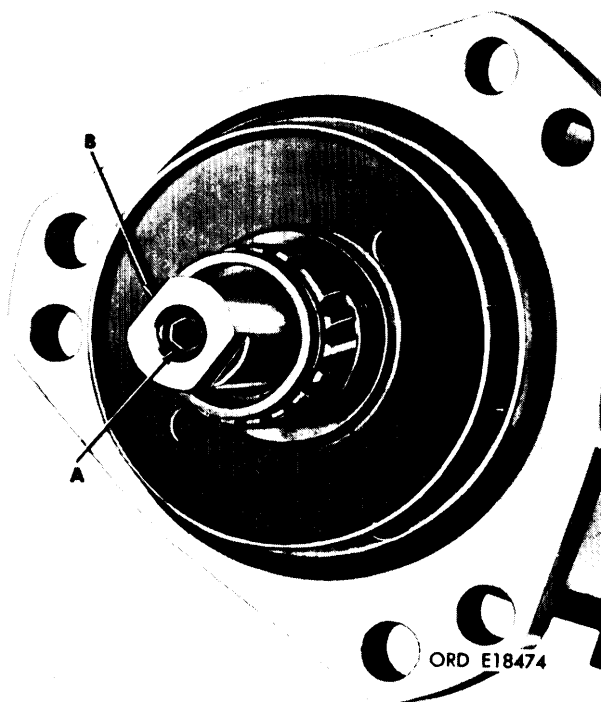

Figure 3-17. Loosening camshaft nut.
c. Refer to figure 3-17. Loosen camshaft nut setscrew (A) and camshaft nut (B) two or three turns.
e. Refer to figure 3-17. Remove camshaft nut setscrew (A), camshaft nut (B) and timing device hub.